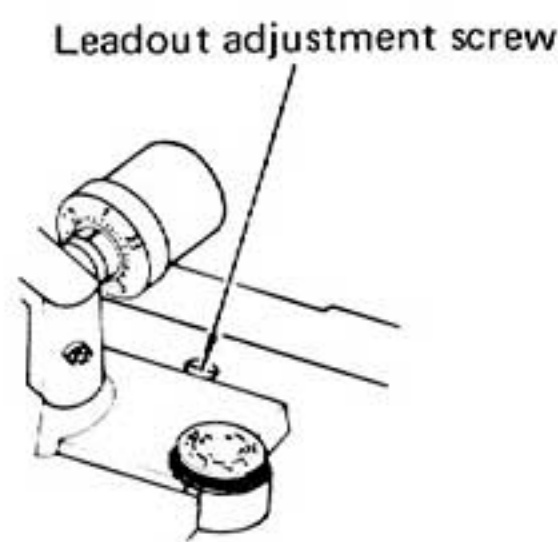

Fig. 10
Adjust lead-out in accordance with the following Items 1 and 2. The TP numbers are test point numbers inscribed on the logic board. (Fig. 10)
- (1) Measure the voltage at TP-4 with the tonearm disengaged from the tonearm rest. (With the turntable in rotation)
- (2) Adjust the lead-out start point by turning the lead-out adjusting screw shown in Fig. 10 so that the voltage with the stylus positioned at 65 mm away from the platter center becomes 5% lower than the voltage with the tonearm secured on the tonearm rest.